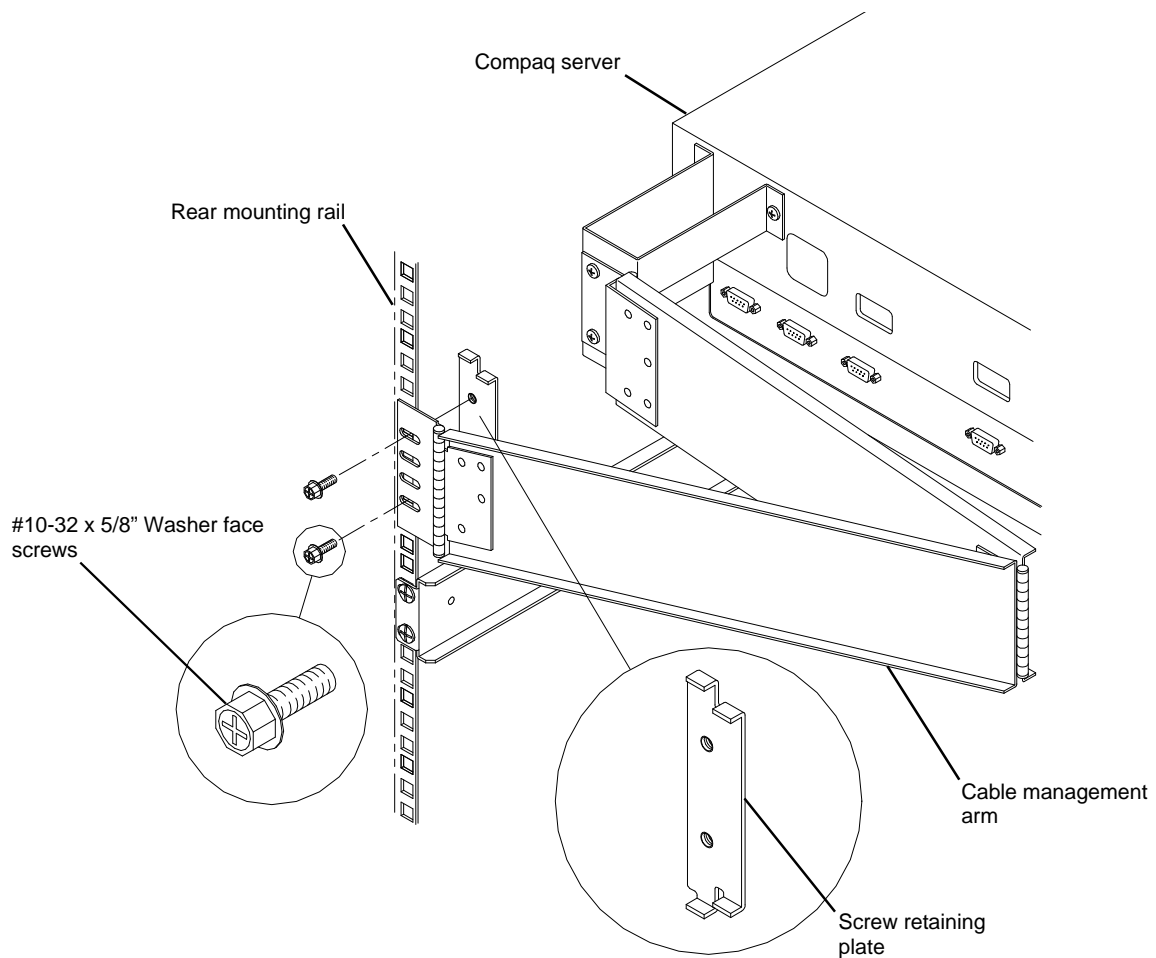

Figure 14
3. Attach the arm to the rack with two #10-32 x 5/8" Washer face screws. See **Figure 14**.